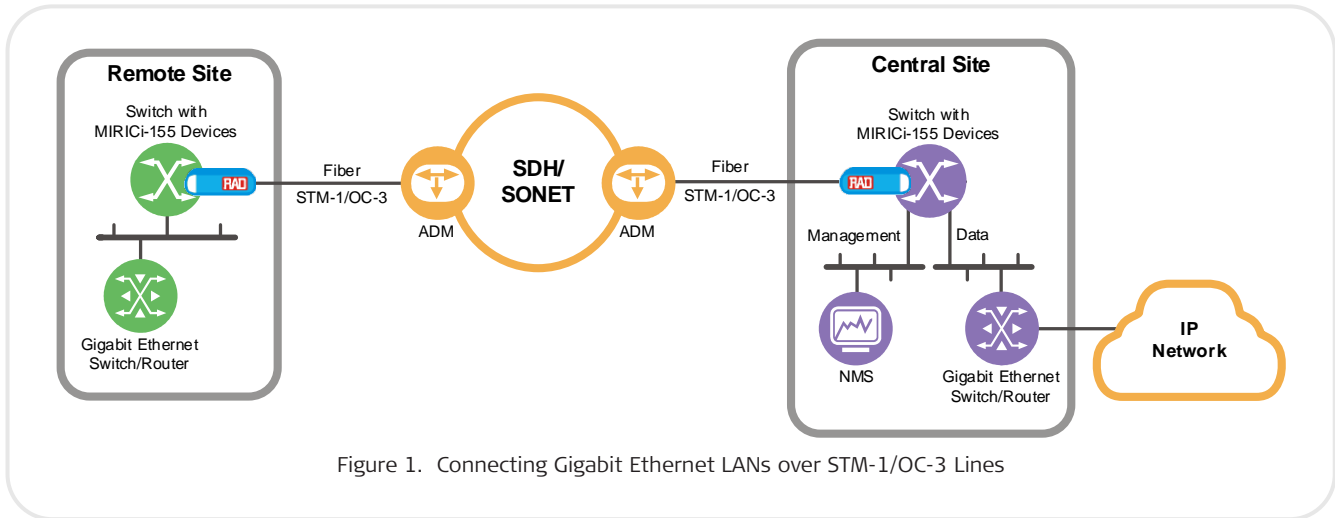

Figure 1. Connecting Gigabit Ethernet LANs over STM-1/OC-3 Lines
- STM-1/OC-3 lines (*Figure 1*)